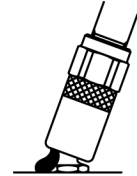

Fig.15
- 5) Remove the chuck at the end of the grease gun. Since pressure is applied to the chuck, the head of the nipple may be broken if it is suddenly pulled. Incline the chuck to bleed the internal pressure, and the chuck can be easily removed. (Fig.15)